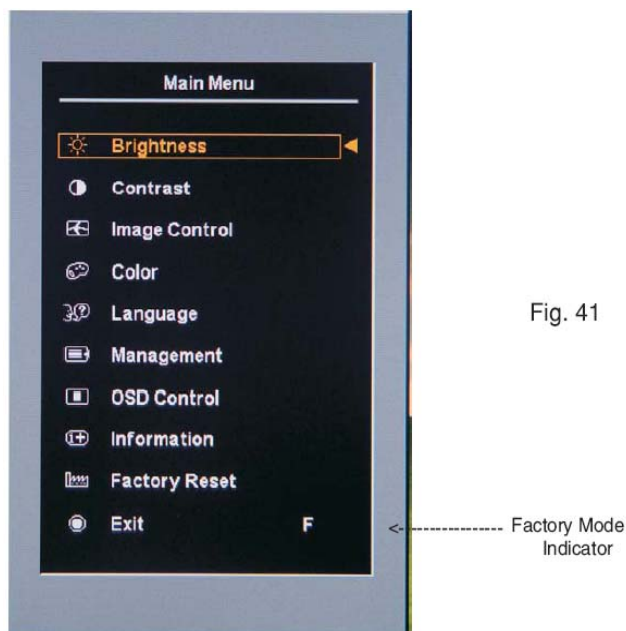

Fig. 41
2). [Push "Auto Adjust " and "+(plus) and hold them at the same time] + [Press power "Power " button untill comes out "Windows screen"] => then release all button, then press "Menu" button, wait until the OSD menu with Character "F" (below OSD menu) come on the Screen of the monitor (see Fig. 41).